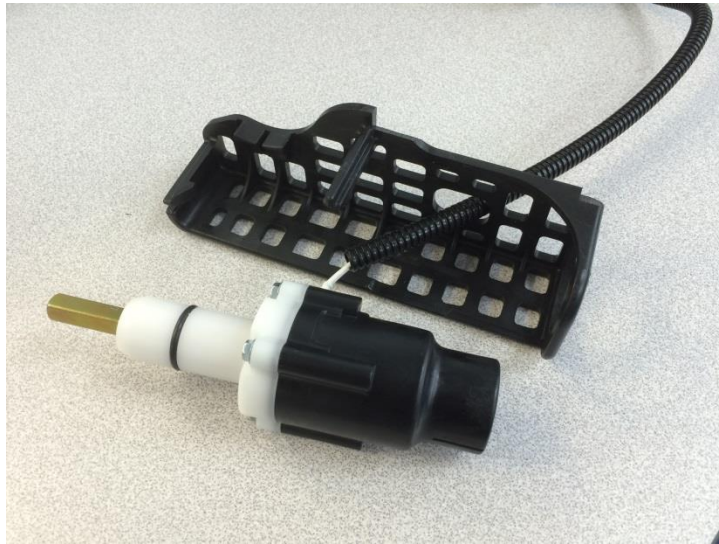

Figure 5, Slot in the Support Bracket for the Wire
- Pull the wire/Deutsch connector through the hole on the right side of the bracket (see Figure 5).